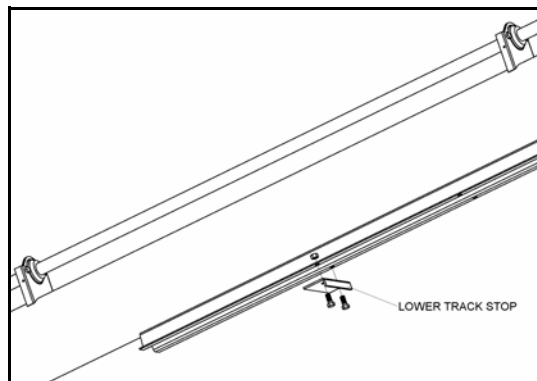

Figure 3.6 Lower Track Stop
3. Attach the lower angle-iron trackstop with 7/16" x 1-1/4" bolts and locknuts as shown in Figure 3.6. Ensure trackstop is installed in correct position by referring to Table 3.2. Tighten securely.